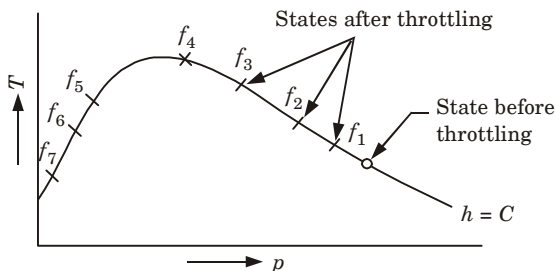

Fig. 13. Isenthalpic states of a gas.
4. By operating the valve manually, the gas is throttled successively to different pressures and temperatures $p_{f1}, T_{f1}; p_{f2}, T_{f2}; p_{f3}, T_{f3}$ and so on. These are then plotted on the T - p coordinates as shown in Fig. 13.
7. The initial temperature and pressure of the gas (before throttling) are then set to new values, and by throttling to different states, a family of isenthalpes is obtained for the gas, as shown in Fig. 13.